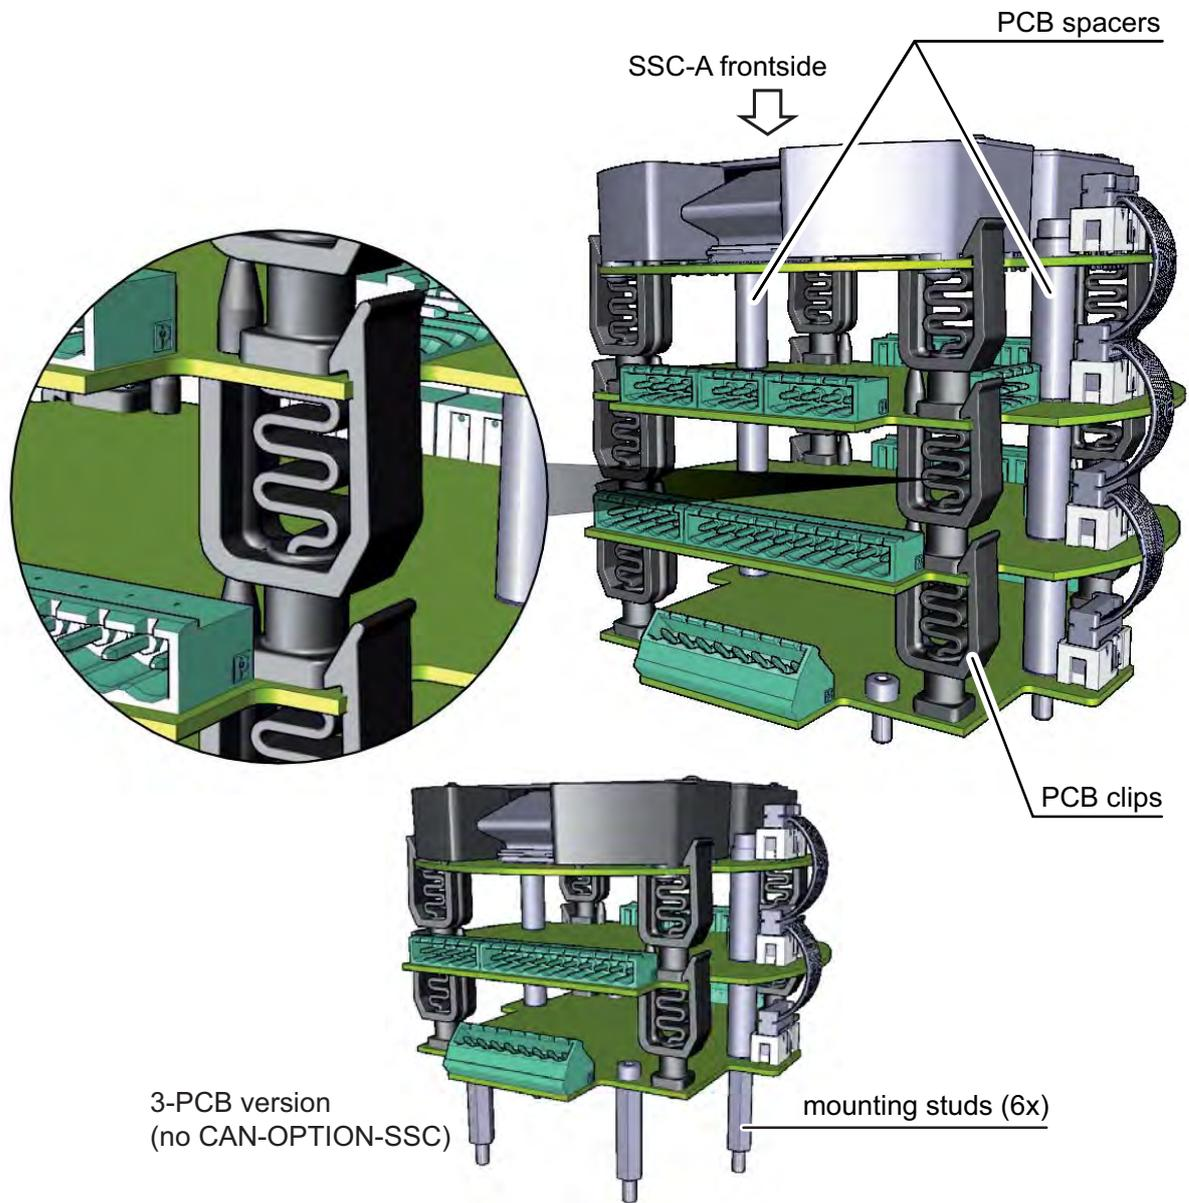

FIGURE 3-7
- The SSC-B version without CAN-OPTION-SSC has 4 extra mounting studs to compensate for the reduced board assembly height. See FIGURE 3-7.